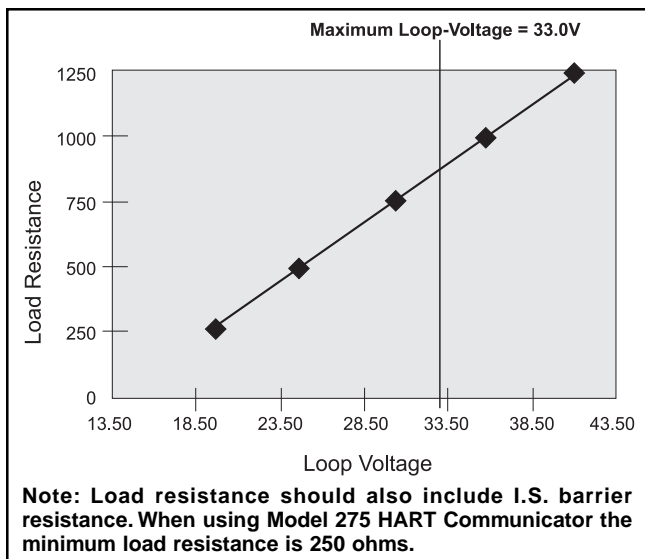

Figure 4 Power Supply vs. Maximum Load Resistance
21.0 to 33.5 Vdc Power Supply, refer to Figure 4 below.